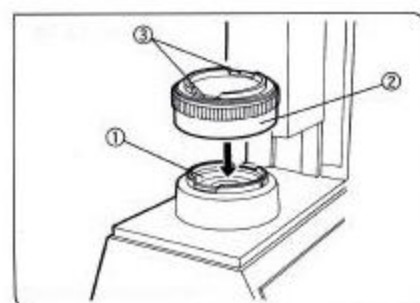

Fig. 9
(Fig. 9)
Holding the field iris diaphragm attachment ② over the light glass exit ① with the filter holder notches ③ positioned as shown in Fig. 9, insert the attachment into the light glass exit opening until it seats with a click.
- ★ Attempting to insert the attachment with the notches ③ facing in other directions than shown in Fig. 9 may break the mounting clip.